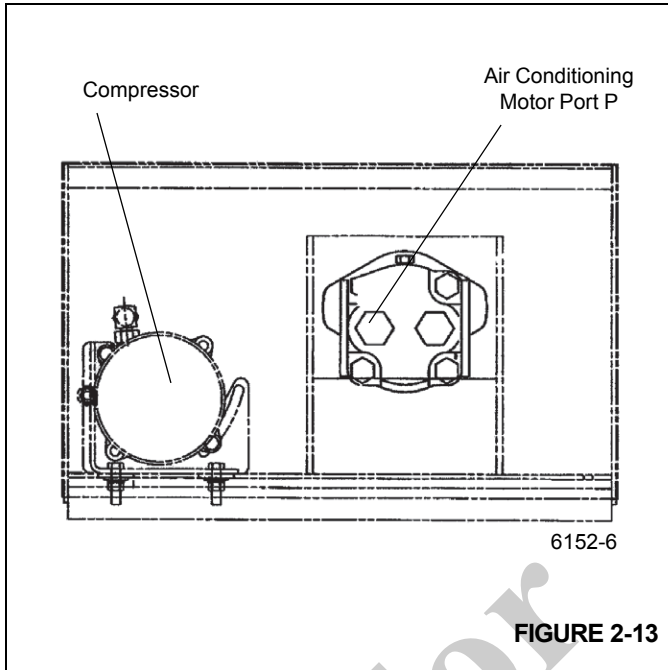

FIGURE 2-13
1. Disconnect hose assembly at motor port P, coming from port A of flow divider (Figure 2-13). Install a pressure gauge on port GP of the flow divider.